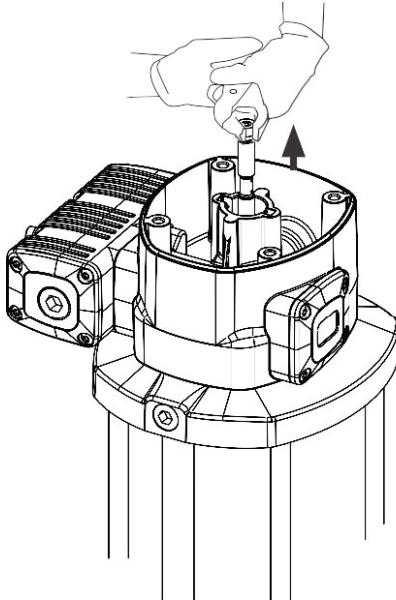

Fig. 7a
1. Unscrew bolts (2) and remove cap (3).
2. Unscrew the sensor sleeve (4).
3. With a manual clamp on the nut (5), pull the rod on the air piston assembly (37) outwards until its central recess appears (fig. 7a). Then, with another manual clamp, grab said rod on said recess to prevent its sealing surface to be damaged, and unscrew the nut (5) (fig. 7b).
4. Remove O-ring (6) and ring (7), and replace them with new ones later.
5. Unscrew bolts (44). Pull the motor head (13) upwards to free it along with flange (34).
6. Take away the gasket (8) and replace its seals (9) and (10).
7. Unscrew 5 bolts (35) and split motor head (13) from the flange (34). Take away the washer (30) and replace the seal (10).
8. Take away the cylinder (40) while carefully holding the air piston (37). Replace the piston seal (36).
9. Reassemble in reverse order, applying thread locker in screws (35), nut (5) and sensor sleeve (4).